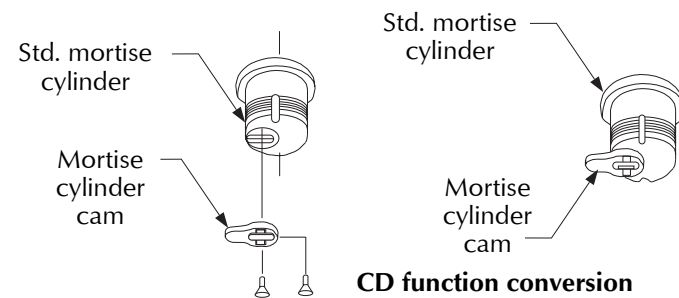

Figure 6
1. Remove mortise cylinder cam and reinstall in reverse (Figure 6).